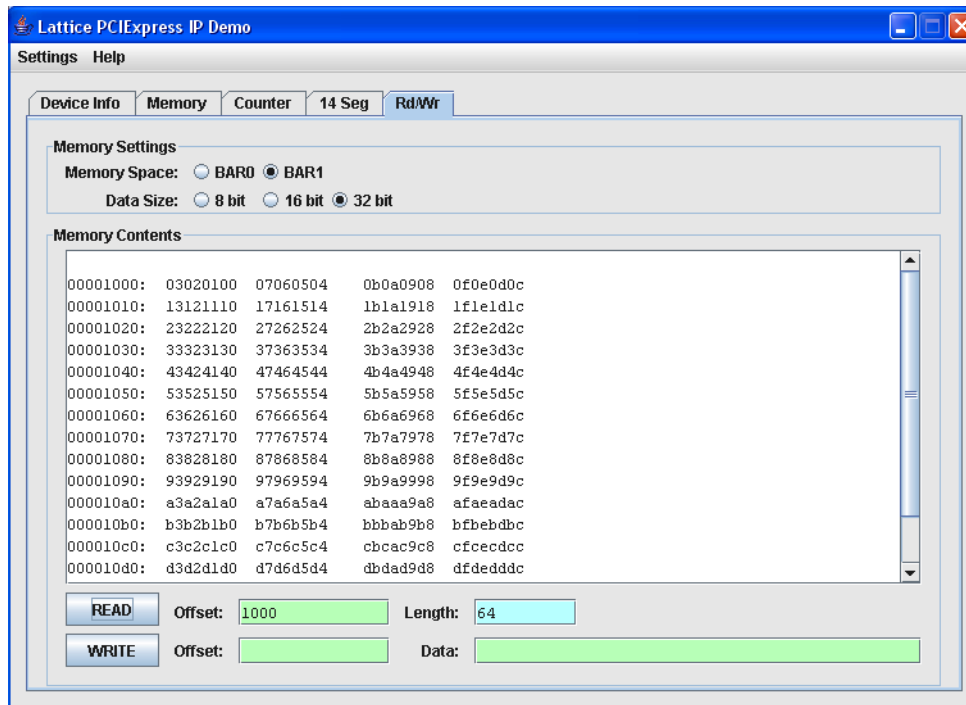

Figure 6.5. PCI Express Basic Demo Read/Write Page
- Finally, click on the Rd/Wr tab to open the Read/Write page. The Read/Write page is used for looking at and poking at registers and EBR memory values in the application IP. Refer to Figure 6.5.